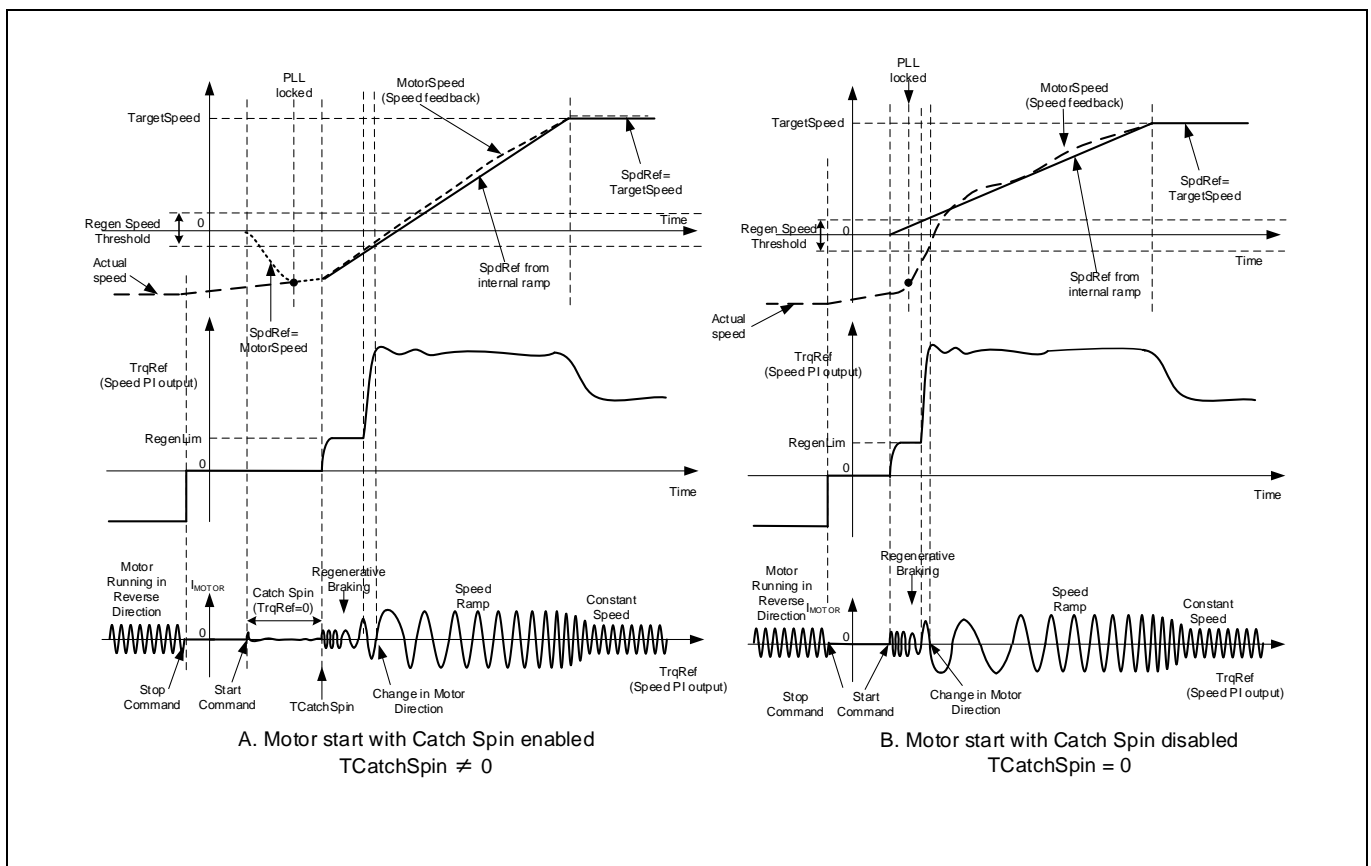

Figure 30 Reverse Catch Spin - Motor start with/without catch spin
If the motor is spinning in the opposite direction as desired, then the catch spin sequence is termed as ‘Reverse Catch Spin’. Figure 30 (A) shows an example of ‘Reverse Catch Spin’. In this example, at the start command, the motor is already spinning (in the opposite direction). During the catch spin sequence, no motoring current is injected. After the TCatchSpin time has elapsed, the motor is still spinning in opposite direction at a speed higher than Regen Speed Threshold (RegenSpdThr), thus an injected torque, limited by the value defined in RegenLim parameter, forces the motor to decelerate via regenerative braking. Once the speed of the reverse spinning motor falls below Regen Speed Threshold (RegenSpdThr), the injected torque is limited by MotorLim (RegenLim<=MotorLim). The injected torque forces the motor to come to a stop and start accelerating in the desired spin direction, following the speed ramp reference to reach the set target speed.
If catch spin is disabled, normal speed control starts immediately after the start command, without waiting for PLL to be locked. Usually the control would still be able to start a spinning motor, but motor speed may not increase/decrease seamlessly. As shown in Figure 30 (B), after the start command, the motor is still spinning at a speed higher than Regen Speed Threshold (RegenSpdThr), hence the injected torque limited by the value defined in RegenLim parameter, forces the reverse spinning motor to decelerate via regenerative braking. Once the speed of the reverse spinning motor falls below Regen Speed Threshold (RegenSpdThr), the injected torque is limited by MotorLim (RegenLim<=MotorLim). The injected torque forces the motor to come to a stop and start accelerating in the desired spin direction, following the speed ramp reference to reach the set target speed.